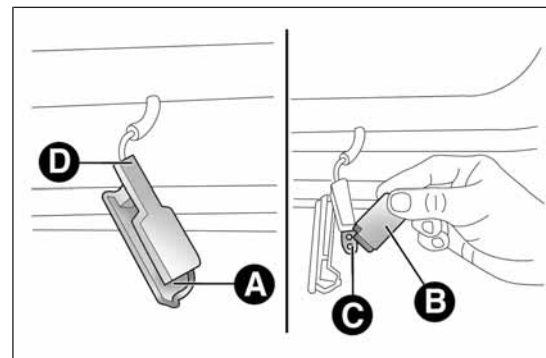

fig. 150
- ❑ open the door and remove the roof light by pushing on clip A fig. 150 with a screwdriver;
- ❑ press the sides of protection B fig. 150 near the two fixing pins and replace bulb C;